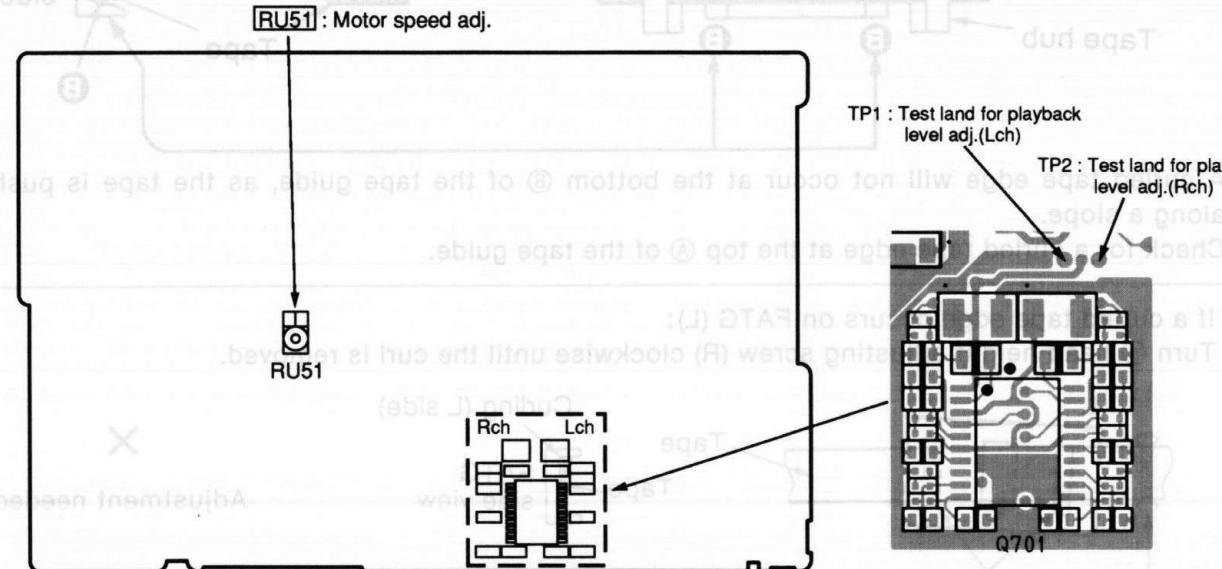

Fig. 1 MAIN PCB (P503)
- Short lands of TP01. (Refer to Fig. 1 MECHANISM PCB.)